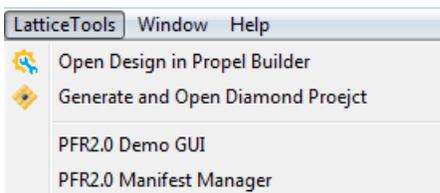

Figure 3.4. LatticeTools Menu
- Choose **LatticeTools** >  **OpenDesign** (Figure 3.4) from Propel Builder.